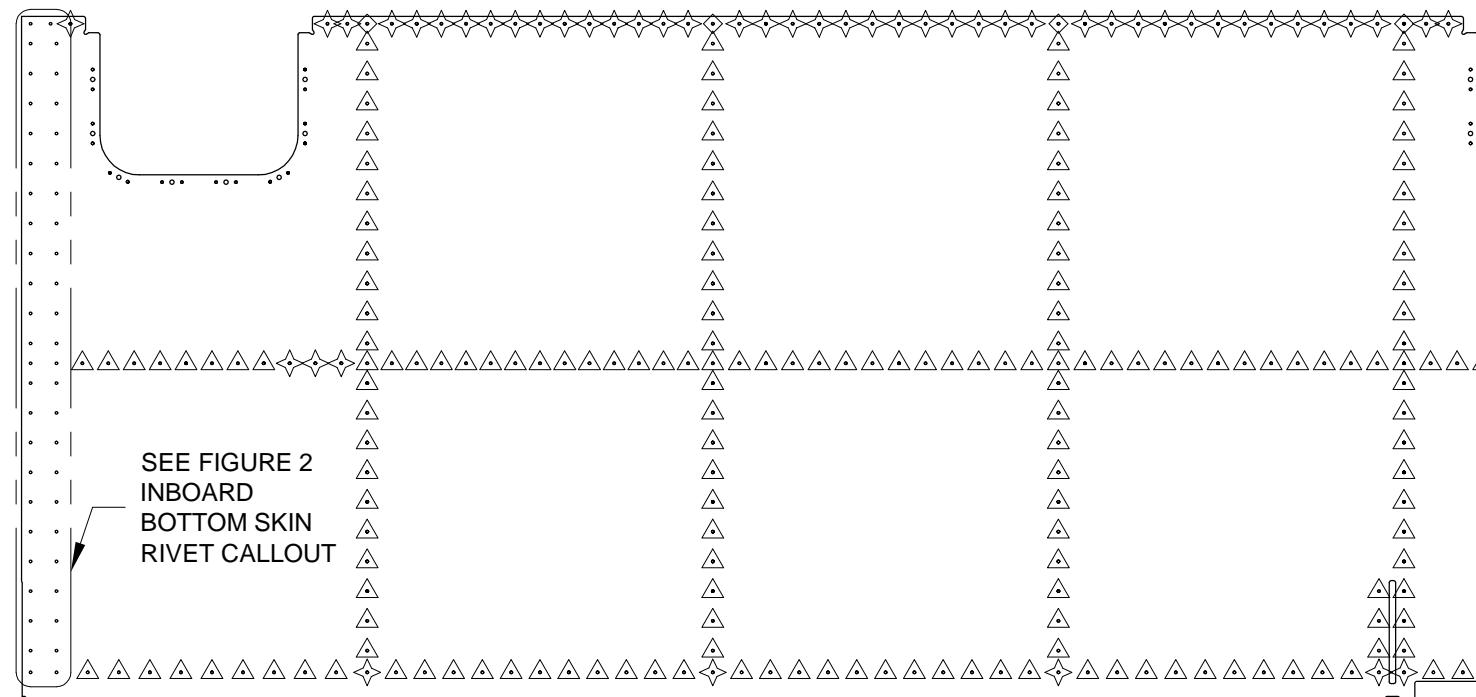

FIGURE 3: OUTBOARD BOTTOM SKIN RIVET CALLOUTS
Step 12: Cleco the W-1005-L Bottom Outbd Wing Skin to the main spar assembly and rib that comprises the next rib bay immediately outboard of the riveted portion of the skin. Remove all clecoes from the two outboard rib bays. Carefully, so as not to form a kink, pull the unclecoed outboard portion of the bottom outbd wing skin back to gain access and rivet the rib bay. Rivet callouts are found on Page 20-6, Figure 2 and Figure 3. Repeat this step on each remaining rib bay.